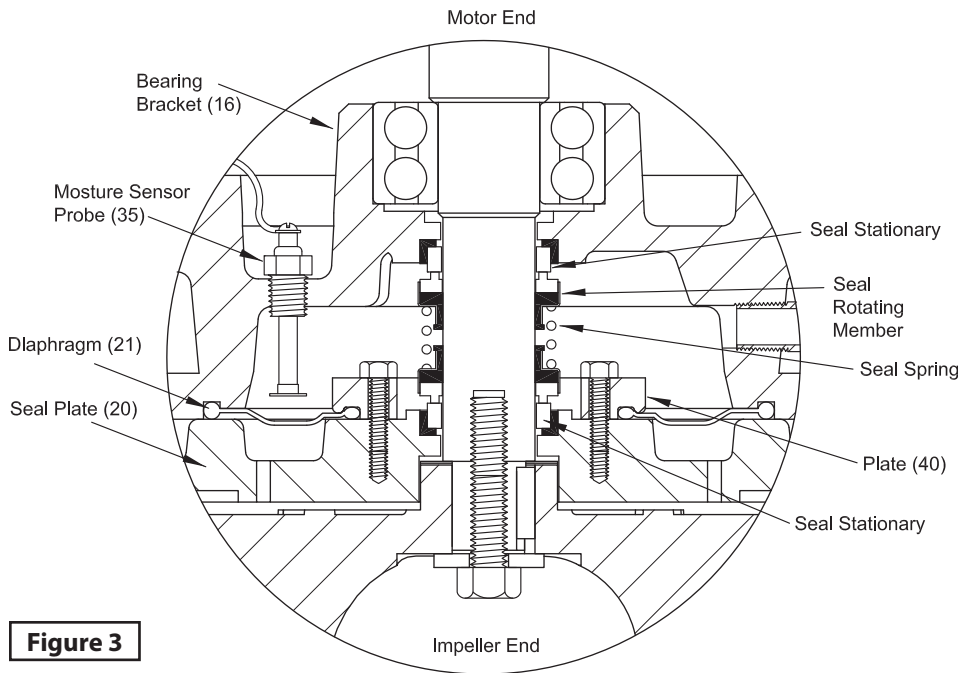

Figure 3
**Seal/Diaphragm** - (See Figure 3) Clean and oil seal cavities in bearing bracket (16) and seal Plate (20). Lightly oil (**Do not use grease**) outer surface of inboard and outboard stationary members of seal (19). Press inboard stationary member firmly into bearing bracket (16) and outboard stationary into seal plate (20), using a seal pusher tool. Nothing but the seal pusher tool is to come in contact with seal face.